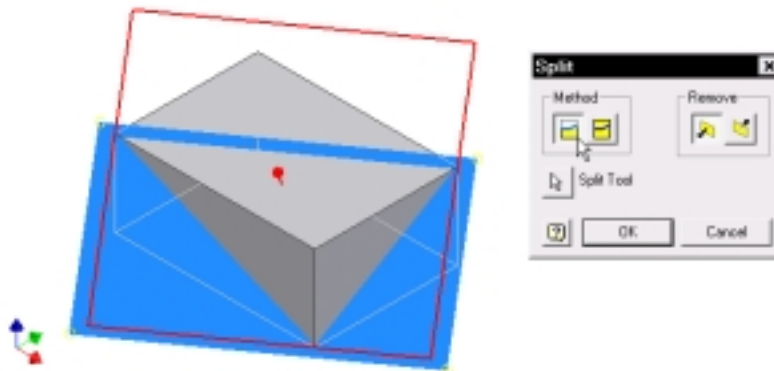

Figure 3-48
5. Split the solid part. (See Figure 3-48.)